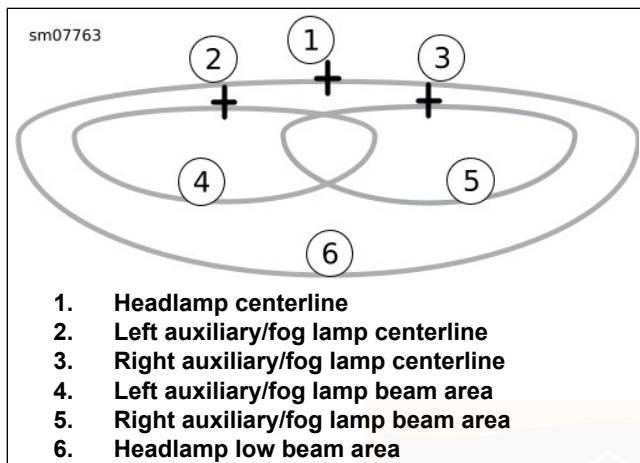

Figure 80. Headlamp Pattern: LED Type with Auxiliary/Fog Lamps
4. See Figure 80. Mark the auxiliary/fog lamp horizontal and vertical centerlines (2, 3) on the wall.
7. Turn on the headlamp low beam and cover both the headlamp and the right auxiliary/fog lamp. Adjust the left auxiliary/fog lamp so the entire high intensity zone (4) is below the centerline as shown in Figure 80.